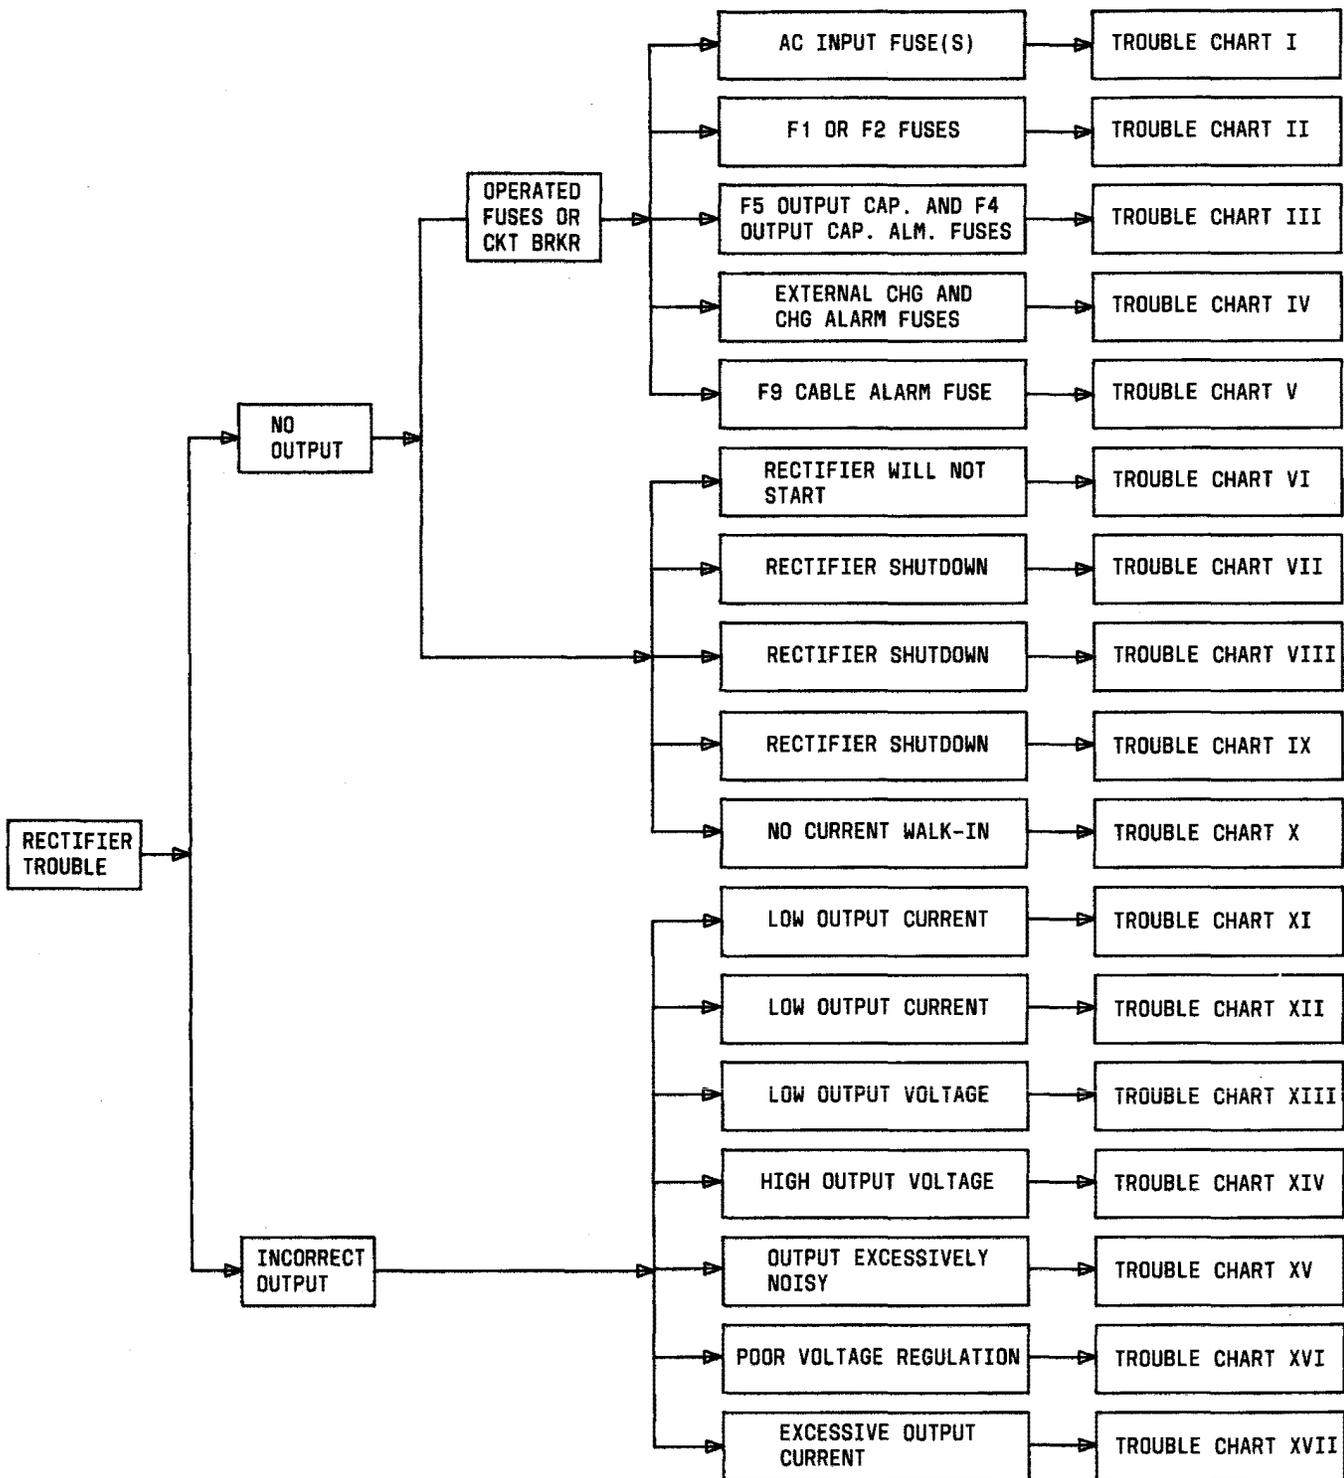

Fig. 1—TROUBLE CHART
4.08 Trouble Charts and Tests: Trouble Charts I through V refer to operated fuses, Trouble Charts VI through X refer to shutdown or rectifier failures in which no fuses are operated, and Trouble Charts XI through XVII refer to an incorrect output. (See Fig. 1.)